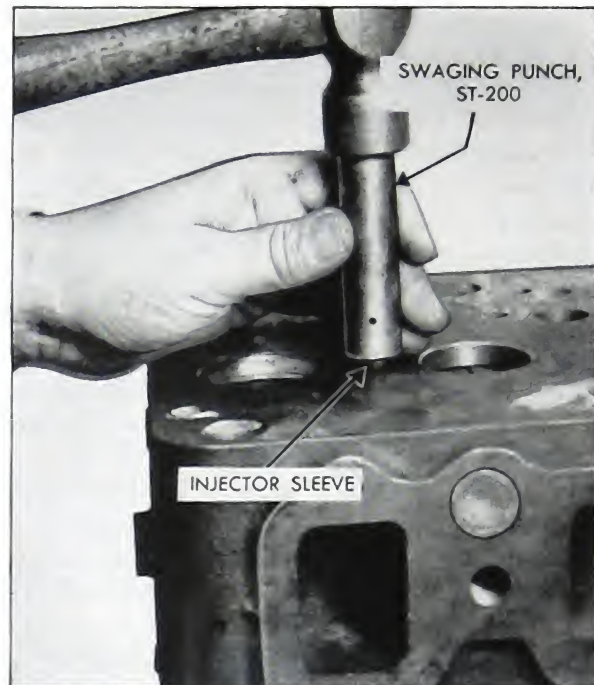

Fig. 3-11. Sealing lower end of the injector sleeve "B"
3. Finish sealing the lower end of the sleeve with the 60° angle punch. (Fig. 3-11).